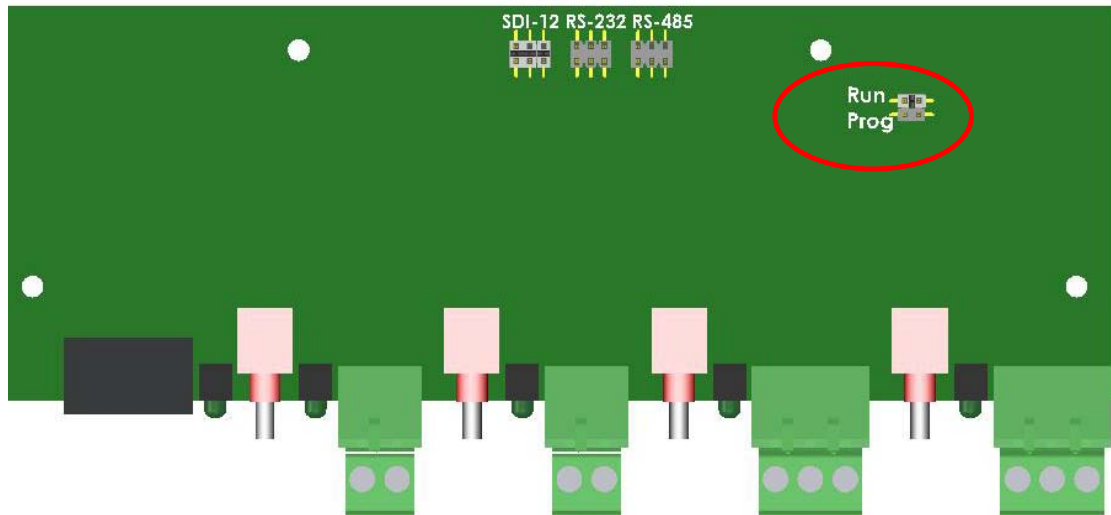

Figure 7. Program mode jumper
- Locate the program mode jumper and move the jumper from *Run* to *Prog* as shown in Figure 7.